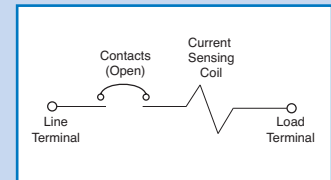
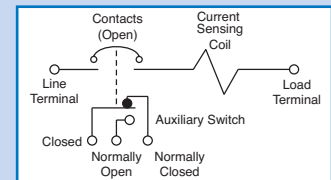

Fig. 1 - SERIES TRIP
Fig. 2 - SERIES TRIP WITH AUXILIARY SWITCH
The most common magnetic circuit breaker configuration is called "Series Trip". It consists of a current sensing coil connected in series with a set of contacts. (Fig. 1)
Inside the coil is a non-magnetic delay tube, housing a spring-biased, moving, magnetic core. An armature links the contacts to the coil mechanism, which functions as an electro magnet. When the contacts are open, there is no current flow through the circuit breaker, and no electro-magnetic energy is developed by the coil. When the contacts are closed, current flow begins. (Fig. 2)
■ Figure 1 - STANDARD CONFIGURATION (SERIES TRIP)
■ Figure 2 - RATED CURRENT OR LESS
If the delay tube is filled with air, the core will move rather quickly, and the breaker will trip quickly. This is characteristic of the Ultrashort Delay Curves (Fig. 1). Solid state devices, which cannot tolerate even short periods of current overload, should use Instantaneous Curves (Fig. 2). These curves have no intentional time delay.
■ Figure 1 - ULTRASHORT DELAY CURVE
■ Figure 2 - INSTANTANEOUS CURVE
A basic two terminal device is usually used as a combination power switch and overload protector. The contacts and current sensing coil are connected in series with the line and load terminals. (Fig. 1)
Same as a Series Trip except with the addition of a S.P.D.T. snap-action switch, which is electrically isolated, but mechanically linked to the movement of the main breaker contacts. This switch is commonly used to remotely signal the status of the breaker (ON or OFF/TRIPPED). (Fig. 2)
Similar to "Series Trip with Auxiliary Switch" except the S.P.D.T. auxiliary switch is actuated only upon electrical trip of the breaker. Upon electrical trip, the "N.O." contact closes and the "N.C." contact opens. This can be used to remotely signal the "TRIPPED" status of the breaker. Also, upon electrical trip, the handle moves to the "MID" position as opposed to the "full OFF" position typical of other breakers. This gives a specific visual panel indication of a "TRIPPED" breaker as compared to one which is merely turned OFF. (Fig. 2)